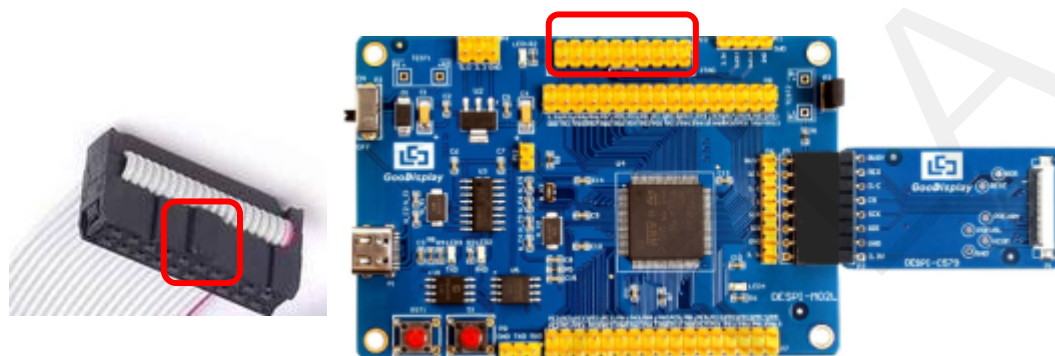

Figure 5 : Connection between JTAG and simulator
- 1) Connect the simulator to DESPI-M02's JTAG interface (align the raised part of the figure 5 simulator interface to the notch direction of the JTAG interface) and connect the computer USB port at the other end.